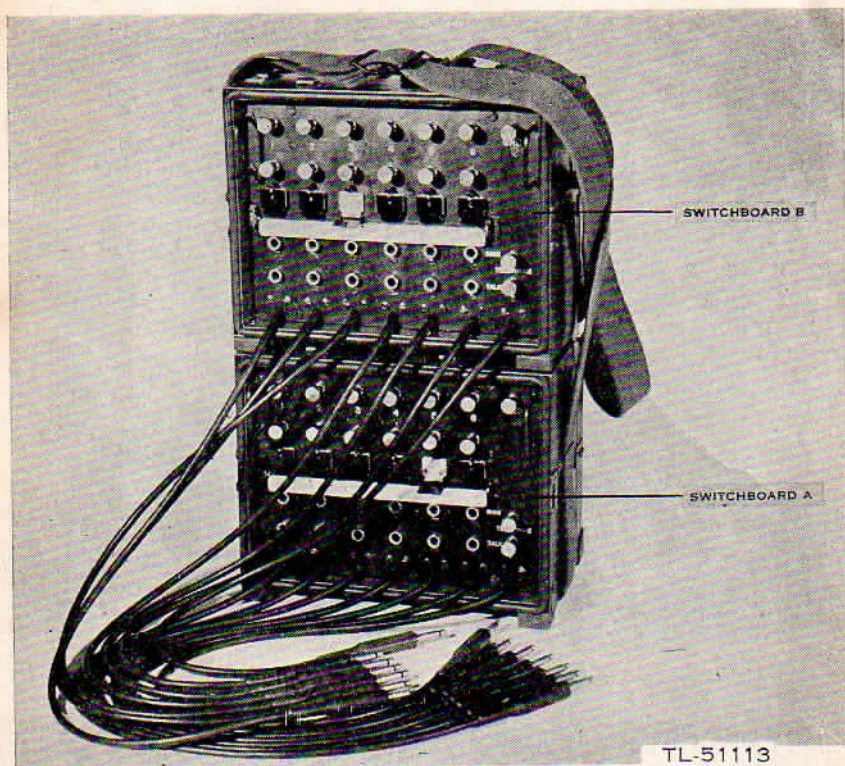

Figure 6. Two Switchboards SB-5/PT, Nested one over the other.
(2) ONE OVER THE OTHER (fig. 6). In order to connect a second switchboard on top of a first one, place the second switchboard (switchboard B) on top of the first one (switchboard A) in such a manner that B rests approximately  $\frac{3}{4}$  inch to the left and on top of A. Then, push B to the right until it snaps into place.